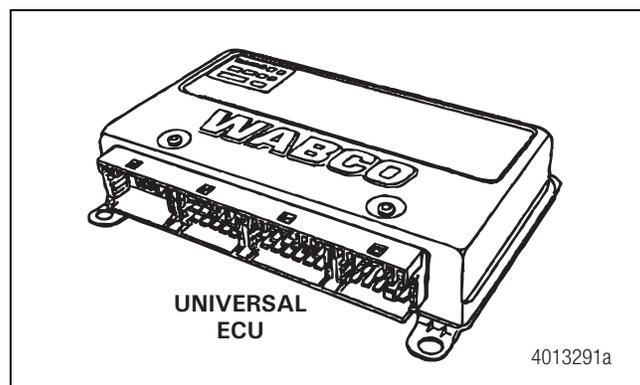

Figure 1
6. Remove the mounting hardware. Remove the ECU. Set aside the ECU for return to WABCO. Figure 1.